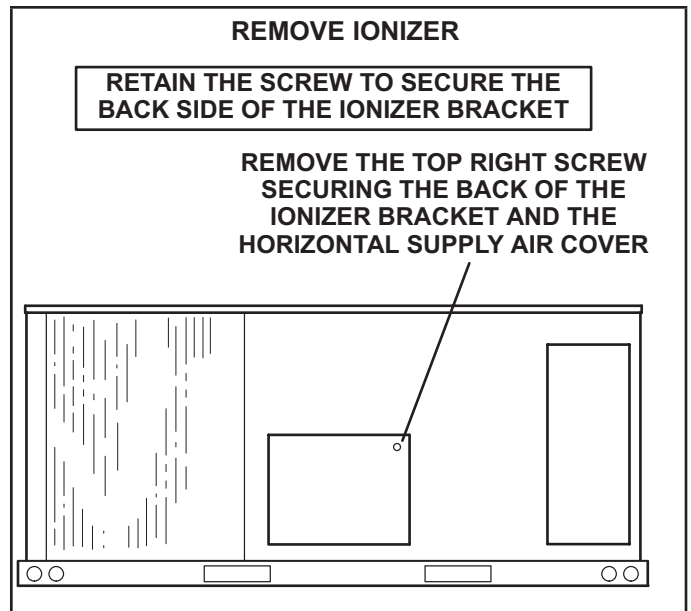

FIGURE 24
- 1 - On the back side of the unit, remove the screw securing the back of the ionizer bracket. See FIGURE 24. Retain the screw to secure the back side of the ionizer bracket.